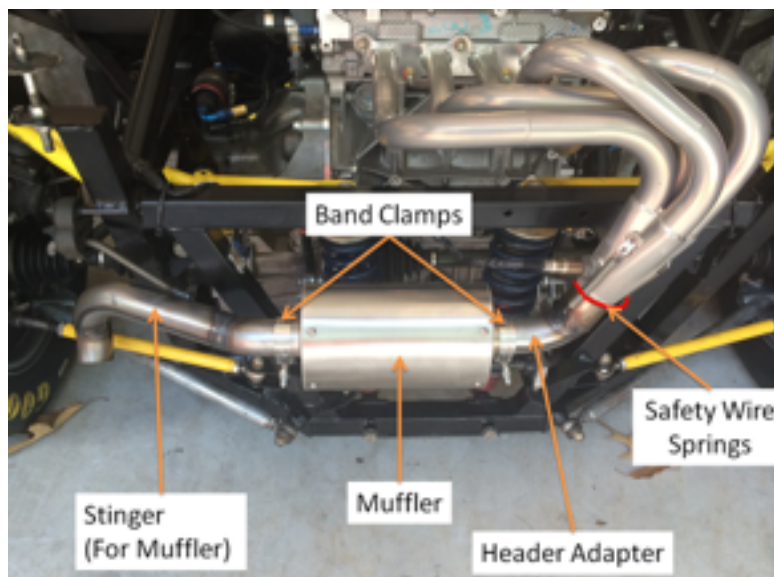

Figure 38 – Muffler
- a. When using the muffler (Part # G390523), replace the stinger outlet pipe with the header adapter, muffler, and stinger. Replace springs and tighten band clamps. See figure 38